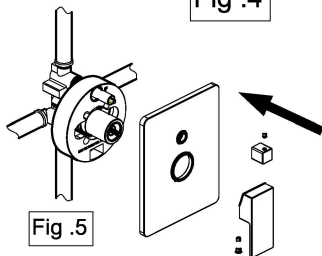

Fig .5
- Install Escutcheon and Handle assembly .(see Fig.5)